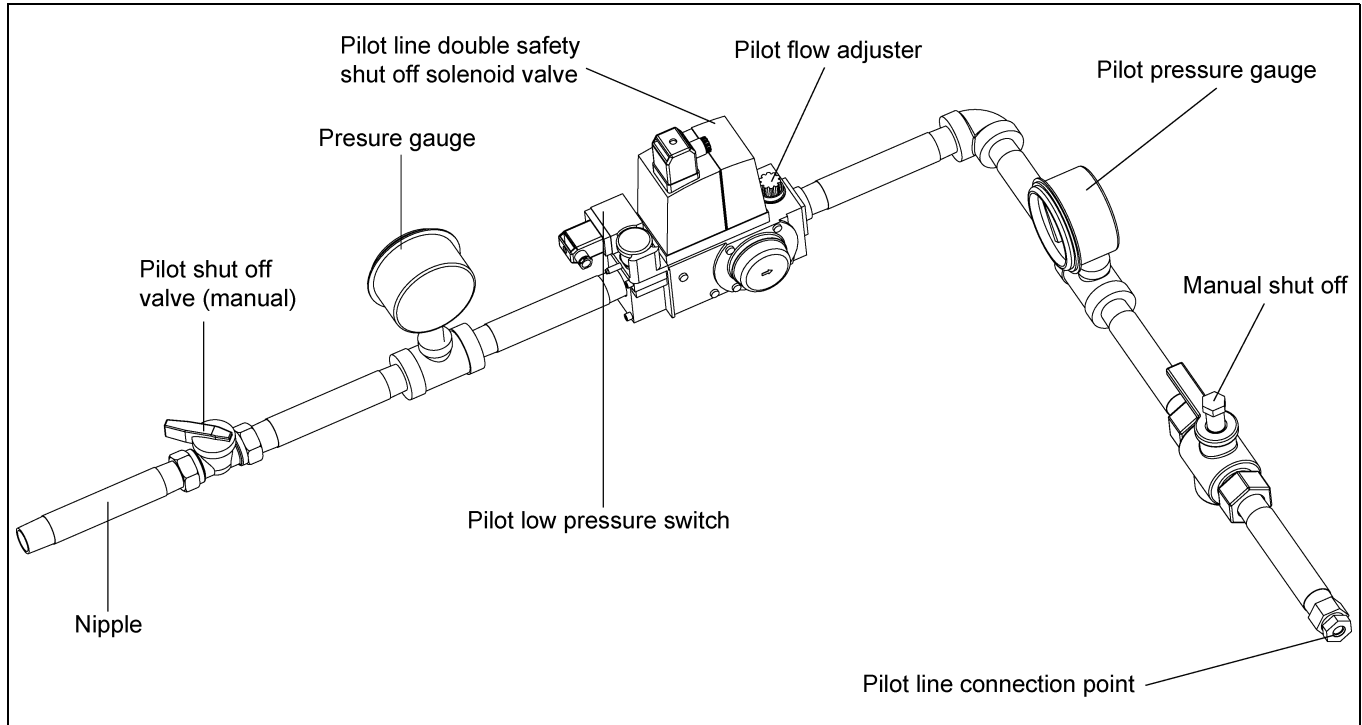

Figure 3D
3. Pressure set with pilot flow adjuster on pilot valve (See Figure 3D on Page 17) read at pilot gauge. (See Figure 3D on Page 17).
- c. Close pilot line valve. (See Figure 3D on Page 17.)
- a. Open pilot valve. (See Figure 3D on Page 17.)